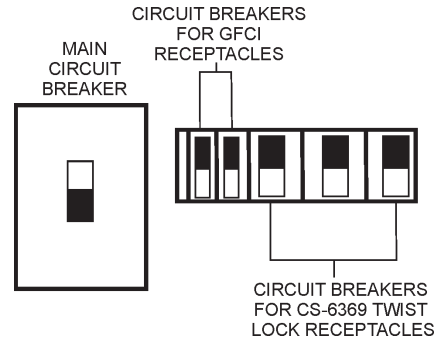

Figure 42. Main, Aux. and GFCI Circuit Breakers (OFF)
1. Place the *main, G.F.C.I.* and *aux.* circuit breakers (Figure 42) in the “OFF” position prior to starting the engine.